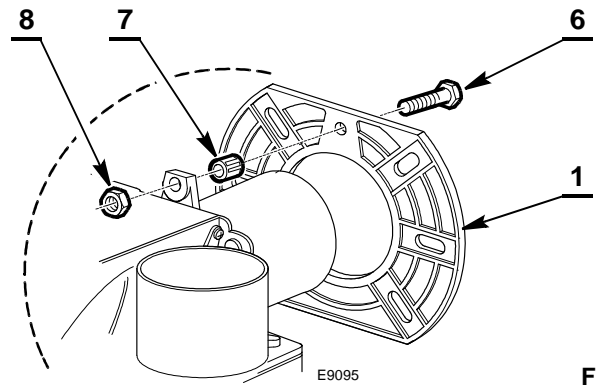

Fig. 7
- Fix the bolt 6) and nut 7) onto the flange 1) as in Fig. 7.
- Fix the securing nut 8)(Fig. 7) onto the bolt 6).